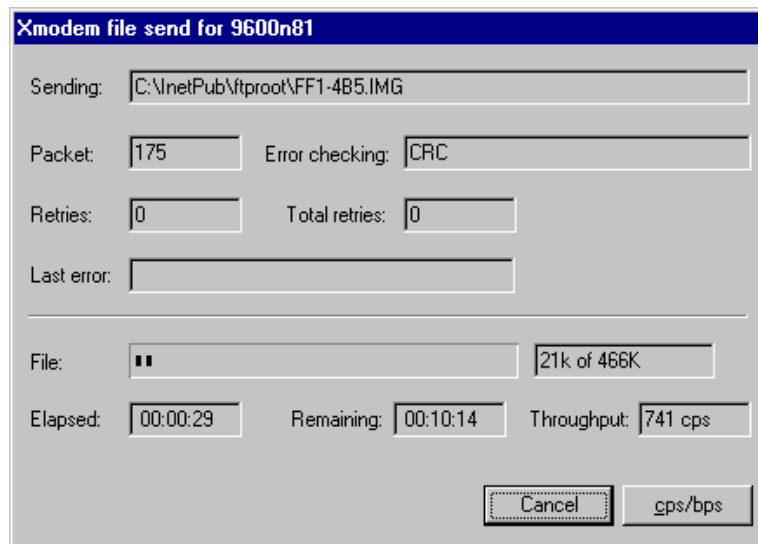

Figure 5-62 Xmodem file send Window
Step 11. Click **Send** to transfer the *.img firmware file to the Access Point. The **Xmodem file send** window of Figure 5-62 will appear displaying the progress of the firmware transfer.